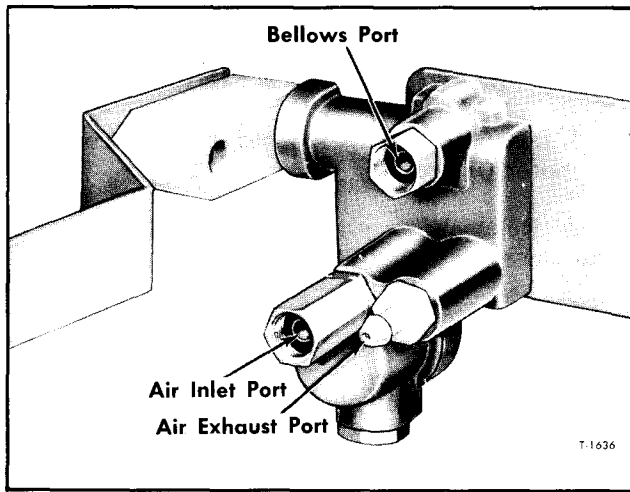

Figure 10—Height Control Valve Ports
2. Referring to Figure 10, disconnect air supply line and bellows air line from height control valve. Tape ends of lines to prevent foreign material from entering.